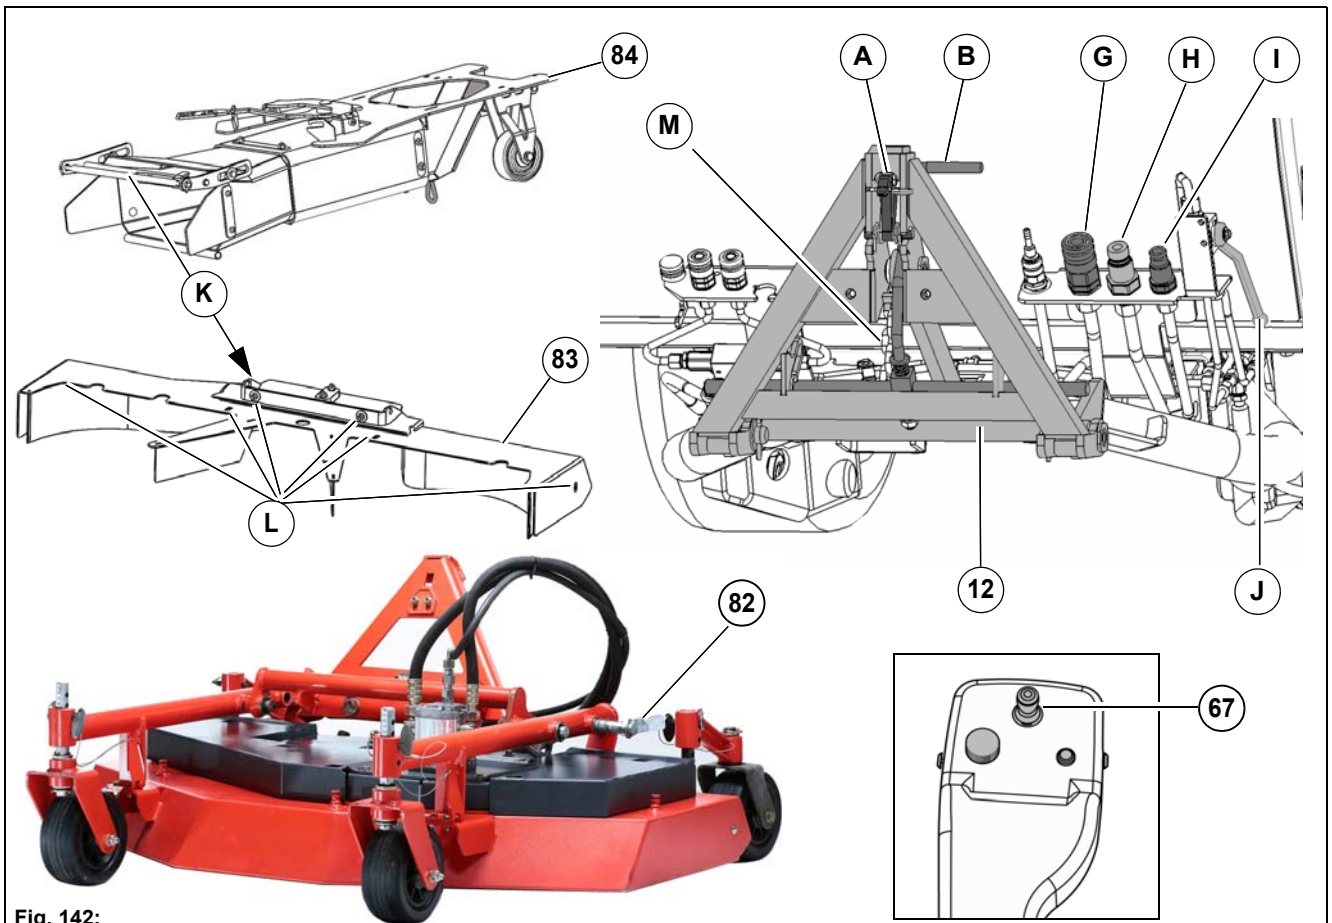

Fig. 142:
3. Fit the suction system **Fig. 142-83** with six flat round screws **Fig. 142-L** to the lawn mower **Fig. 142-82**.
4. Unlock the locking hook **Fig. 142-A** and locking rod **Fig. 142-B** on the front tool carrier.
8. **Close the valve Fig. 142-J for the suction mouth lift system!**
9. Lock the suction pipe **Fig. 142-84** at the suction system with the bow **Fig. 142-K**.
- Mower hydraulic motors – return = **Fig. 142-G**
- Mower hydraulic motors – supply = **Fig. 142-H**
- Leakage oil pipe = **Fig. 142-I**